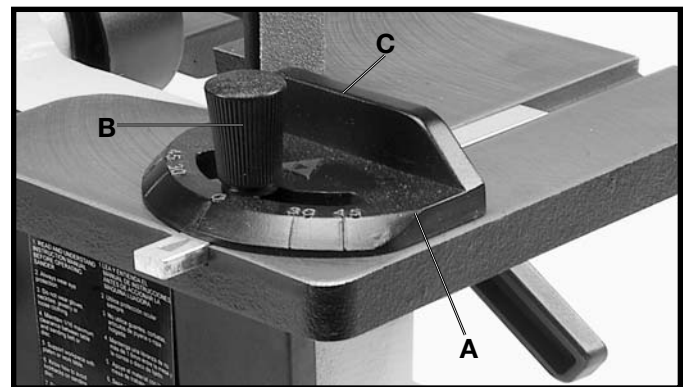

Fig. 33
A miter gage (A) Fig. 33, is supplied with your sander and can be used on the disc table, as shown, or on the belt table. The miter gage can be set anywhere up to 45 degrees right or left by loosening lock knob (B), tilting miter gage body (C) to the desired angle and tightening lock knob (B).